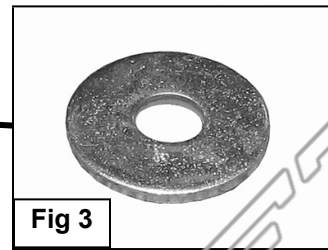

Fig 3
- Select the passenger side front Mounting Bracket, **(Figure 2)**. Insert (1) 12-1.75mm x 120mm Hex Bolt with (1) 12mm ID x 32mm OD x 3mm Flat Washer and (1) 12mm Lock Washer through the Mounting Bracket. Place (1) 12mm Large Flat Washer onto the 12mm Hex Bolt and Bracket, **(Figure 3)**. Slide the rubber bushing onto the Hex Bolt and over the Washer. Make sure that the Large Washer is between the Mounting Bracket and the factory rubber bushing, **(Figure 2)**. Bolt the Bracket to the body mount with the supplied or factory hardware. Snug but do not tighten hardware at this time. **IMPORTANT:** On 05 and newer model years, the large washer on the factory body mount bolt is removable, (do not